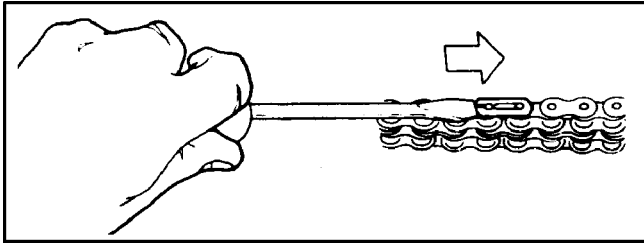
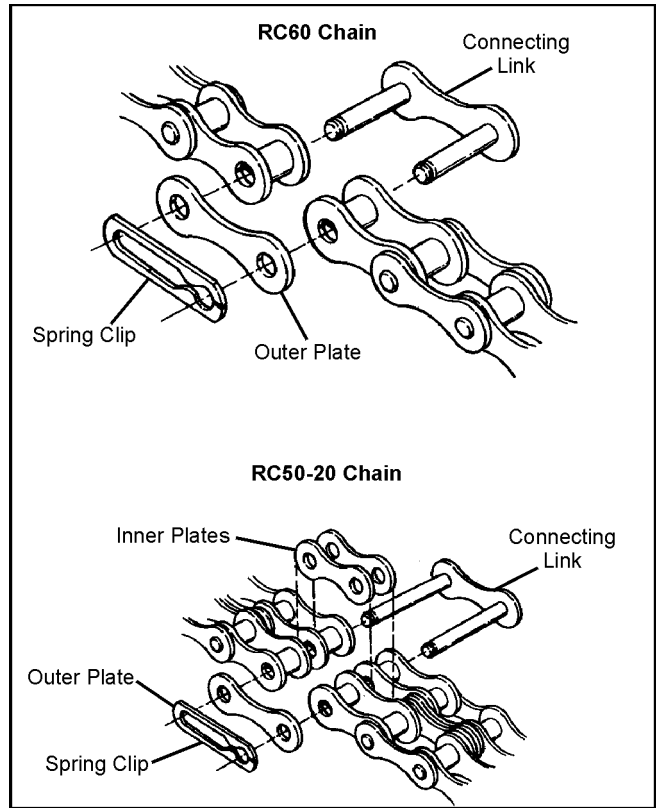

Figure 7-5. Removal of the spring clip.
Figure 7-6. Chain connection link components.
- Remove the spring clip from the connecting link as shown in Figure 7-5. Remove the outside plate and tap out the connecting link. The inside plates will be released when the connecting link is removed (Figure 7-6).
2. Pull the ends of the chain together and insert the connecting link as shown in Figure 7-6 and 7-7. When connecting the RC50-2 chain, insert the inside plates before tapping the connecting link into position.
2. Remove the spring clip or cotter pins, depending on model, from the connecting link. Remove the outside plate and tap out the connecting link. On models that utilize a double 40 or 50 drive chain, as the connecting link is removed, the inside plates will be released (refer to Figure 7-6). Models with single 60 drive idler chains have no inside plates.
3. Replace the outside plate and spring clip as shown in Figure 7-5. Note: Avenger and Frontier models are secured with two (2) cotter pins. Always use new cotter pins.